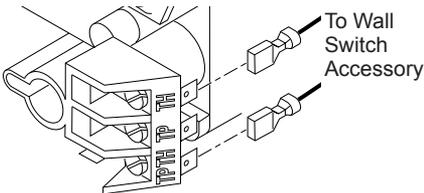

Figure 37 - Connecting Wall Switch to Control Valve
1. Connect one terminal of 25 ft. wire for wall switch to TPTH terminal on valve. Connect remaining wire terminal to TH terminal on valve. Make sure that wire terminals are in positions as unit as pictured in Figure 37. If wires are not connected as shown switch will not work.